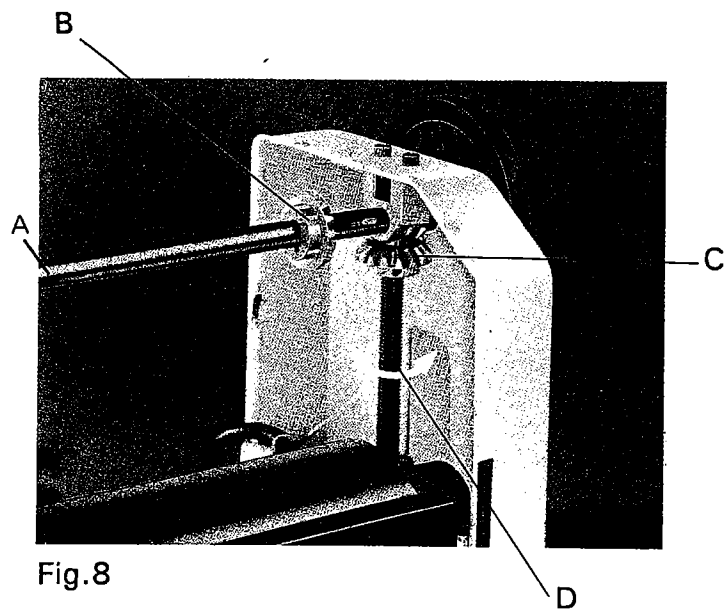

Fig.8
3. Remove "C" clips from one side on shaft A and slide back bevel gear B on shaft. (Caution: Do not rotate shaft A once bevel gears are separated. This will cause alignment problems). (Fig. 8)
Slide gear B back into place. Make sure teeth aligns with teeth in gear C. (Fig. 8)